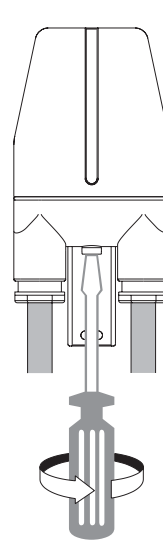

fig. 7
- Secure the dome by tightening the captive screw inserted through the bottom of the base. Tighten the screw until the dome presses on the gasket sufficiently to ensure a hermetic seal (fig. 7).